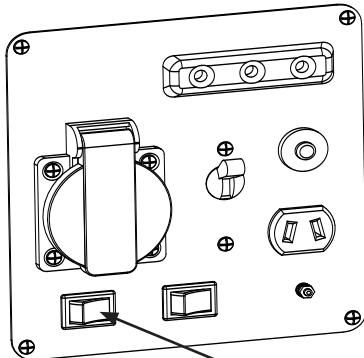
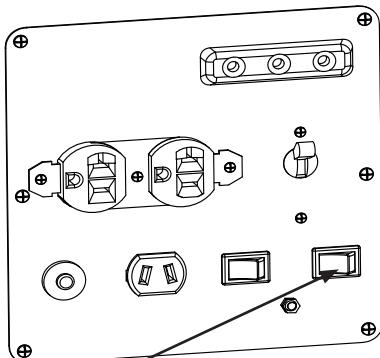

Fig. 4.4
Fig. 4.5
3. Press the start switch to the RUN position (Refer Fig. 4.4 for HY1000Si and Fig. 4.5 for HY2000Si)